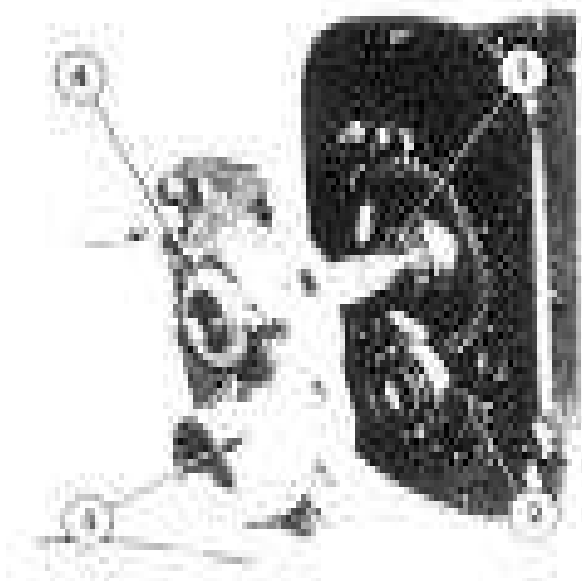

Figure 18
1. Remove the gear support plate retaining bolts and lever the plate assembly away from the transmission rear face, Figure 18